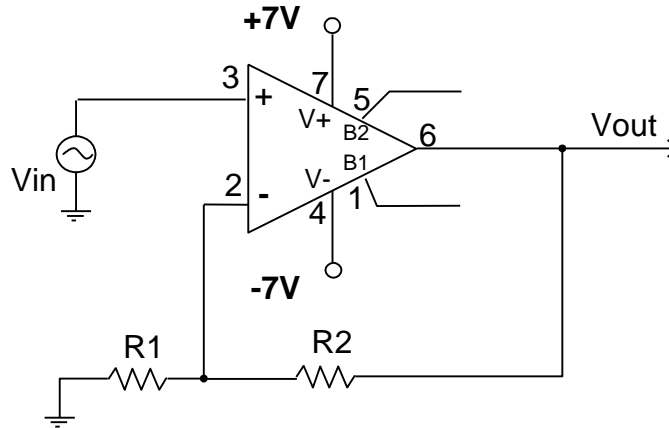

Fig. 5: Non-inverting Amplifier configuration.
Assuming a finite GBW of ω_t , the frequency dependent gain of the non-inverting amplifier shown in Fig. 5 is given by
7. Consider a non-inverting amplifier shown in Fig. 5. Assuming $R_1 = 1\text{K}$, find the value of the resistor R_2 to get an amplifier with a DC gain of 61. Verify your design with PSpice AC simulations. What is the simulated 3-dB bandwidth of the amplifier? Repeat the PSpice AC simulations when the value of R_2 is adjusted to obtain a gain of 31 and 91.